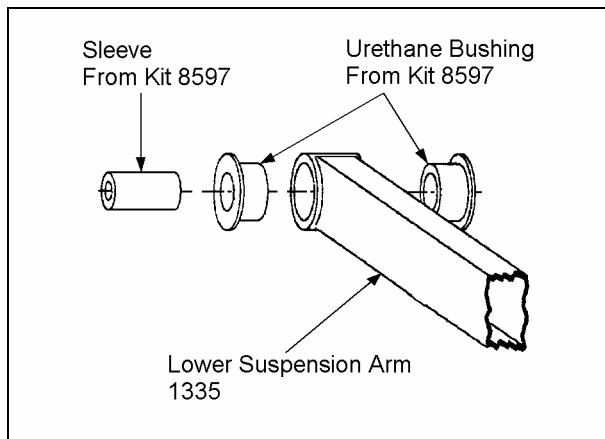

Figure 1
2. ☐ Press the bushings (Do Not Hammer) into one end of a new lower suspension arm. See figure 1.